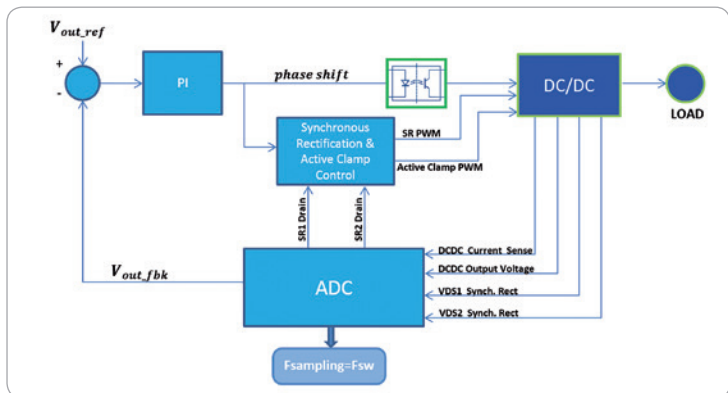

Fig. 3: The control loop in the STEVAL-ISA172V2 PSFB converter circuit. (Image credit: STMicroelectronics from AN4856)
control functions in a PSFB DC-DC converter providing an output of 48V or 52V, as shown in Figure 3. The STM32F334 MCU features a high-resolution timer (217ps maximum resolution) which enables very accurate current regulation in the PSFB circuit.
The control algorithm is based on a simple voltage loop realized with a traditional Proportional Integral (PI) regulator, see Figure 3. The algorithms used in the STM32F334 are explained in detail in Application Note 4856 from ST, which supports the STEVAL-ISA172V2 demonstration board.